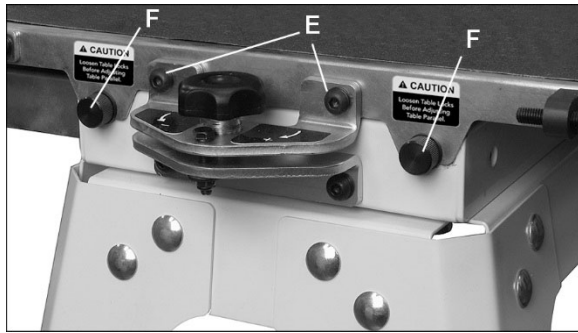

Figure 10-3
4. Remove two (2) screws that attach conveyor table to base.
5. Remove two (2) screws that attach conveyor table to drum alignment bracket (E, Figure 10-3).
6. Loosen two locks (F, Figure 10-3).